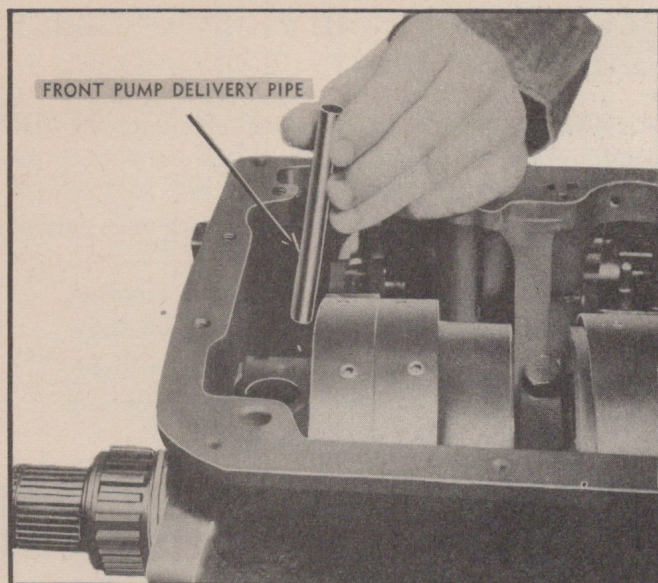

Fig. 120—Removing Front Pump Delivery Pipe
6. Remove front pump delivery pipe by pulling straight up from front pump (Fig. 120).